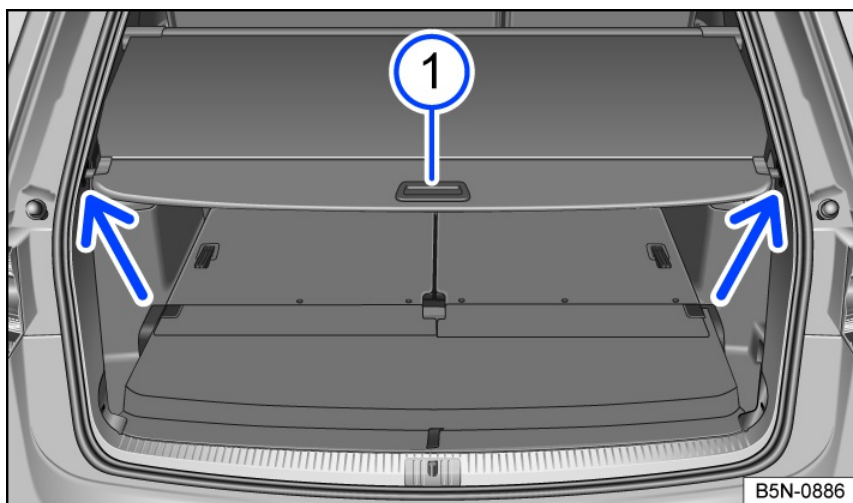

Fig. 155 In the luggage compartment: opening the luggage compartment cover.
- Pull the luggage compartment cover out by the handle fig. 155 ① and pull it upward out of the side retainers (arrows).
- Guide the luggage compartment cover forward by hand. The luggage compartment cover will roll up by itself → ①.
- Pull the luggage compartment cover back by the handle fig. 155 ① and attach it to the anchorage (arrow).